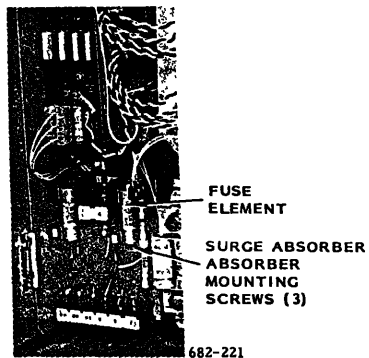

Fig. 21 Surge Absorber Fuse
1. Pull the fuse element and remove it. (Fig. 21)